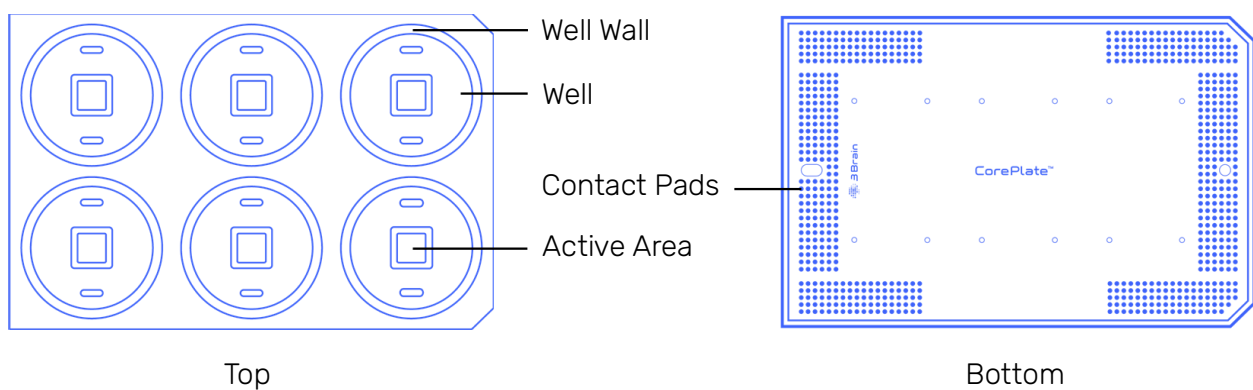

Figure 1: Diagram of the top and bottom of CorePlate™ 6W.
- Do not touch the contact pads on the bottom of the plate (see Fig. 1). Always handle CorePlate™ 6W by using plastic gloves.
- Do not touch the Active Area (see Fig. 1) of the microchip integrated in each well of the CorePlate™ 6W with any tools except those specifically allowed (see section “Cleaning Procedure for CorePlate™ 6W”). In particular, hard or semi-hard objects (e.g. metal or plastic tools) can irreparably damage the electrodes and the on-chip circuits.
- Before inserting CorePlate™ 6W into the HyperCAM Alpha, clean the contact pads on the bottom of CorePlate™ 6W (Fig. 1) with tissue paper soaked in ethanol 96% and let it dry for a few seconds.
Avoid Wetting the Contact Pads. While cleaning CorePlate™ 6W, it is highly recommended not to wet the contact pads on the bottom of the plate (see Fig. 1).
If the chips of CorePlate™ 6W remain dirty after the standard cleaning procedure, you may have to repeat this procedure, including gently brushing the surface of each Active Area (see Fig. 1) with a soft, clean paintbrush during the Detergent Application step. Be aware that this operation can damage the Active Area of the chip and is advised only as a final option if the standard cleaning procedure fails to fully clean the chip. Ensure that the paintbrush is completely clean to avoid introducing more debris into the environment, and ensure that brushing is performed very gently and with utmost care to minimize the risk of damage to the electrodes.
Avoid Wetting the Contact Pads. While hydrophilizing CorePlate™ 6W, it is highly recommended not to wet the contact pads on the bottom of the plate (see Fig. 1).
1. **Rinse Wells with 70% EtOH.** Rinse the wells of CorePlate™ 6W (Fig. 1) thoroughly with 70% EtOH and delicately flush the liquid on each Active Area with a Pasteur pipette.